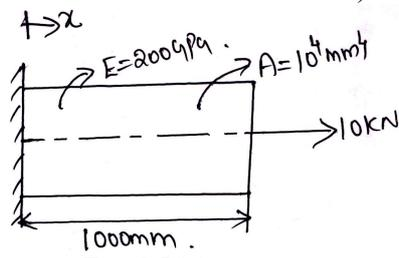

Fig.Q5(b)
- b. Fig.Q5(b) shows a 1-dimensional bar subjected to an axial loading. Taking it as a single bar element, determine